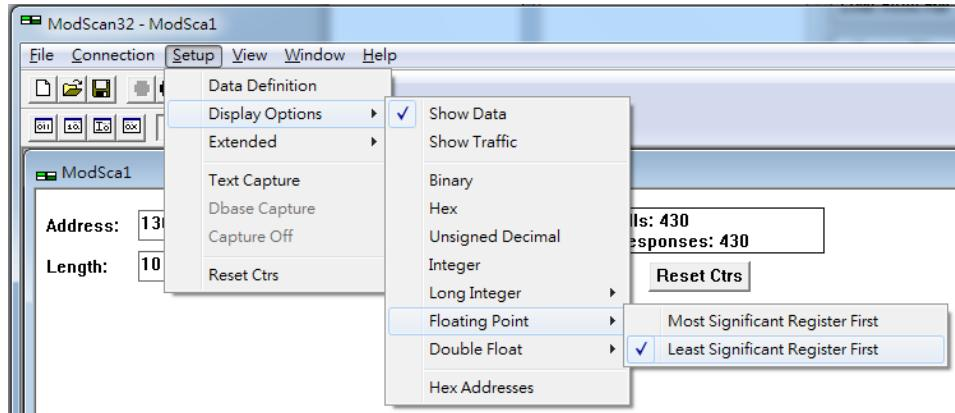

Figure 3-4 Modbus display format
(3) Read HART data by Modbus TCP from HRT-711.
- [1] The HRT-711 provides the MB Address 1300 ~ 1459 (Default CMD(3)(S) Data for Module 0 ~ 15 in HRT-711 => The detailed information refers to the sector 4.3 of users' manual) and users can map the CMD(3) data of HART device to SCADA directly with these Modbus address 1300 ~ 1459.
- [2] For the “Default CMD(3)(S) data of Module 0” in HRT-711, the mapped MB address is 1300 ~ 1309. The below MB/RTU client will use the “Modscan” and “Modbus Poll” tool to show the CMD(3) data of HART device by polling Modbus address 1300 ~ 1309.
- <3> Set the “Display” mode to be “Float” format as Figure 3-4